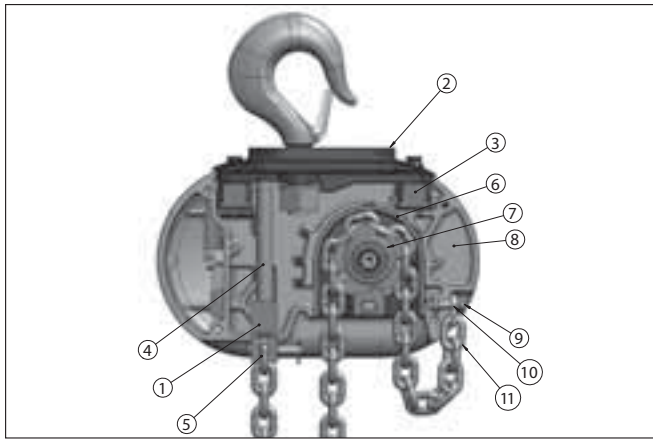

Figure 7. Attaching Load Chain Double Reeved Models
Remove the hook suspension, (2) suspension screws, (1) dead end pin, (1) washer, and (1) cotter pin from the packaging. It should be noted that the suspension includes a dead end bolt and block for supporting the dead end of the load chain as shown in Figure 7.
Place the suspension assembly into the recess on top of the hoist. The dead end block should project through the bottom of the hoist with the pin hole and slot aligned to the underside of the hoist as shown in Figure 7. If these are not aligned as shown, lift the head of the bolt from the hex recess in the adaptor and turn the bolt and block assembly and reseat the bolt head to obtain the proper alignment. Do not change the position of the dead end block on the bolt to attain this alignment.
The dead end of the load chain is temporarily positioned (a few links from the end) by a wire tie. Do not remove this tie before attaching the chain to the dead end block. (See Fig. 7)